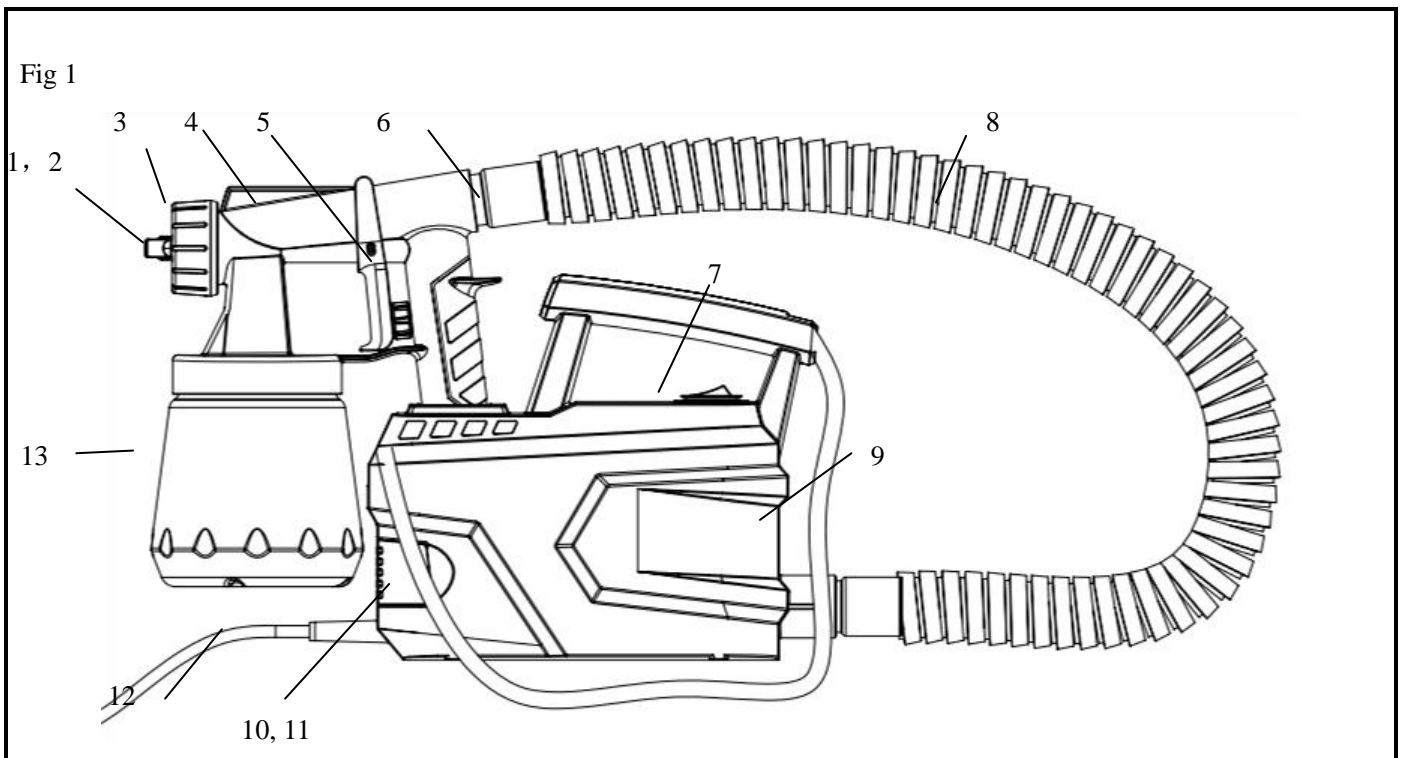

Fig 2
2. Dip the viscosity test cup (Fig. 2) completely into the coating material.
3. Hold the test cup up and measure the time in seconds until the liquid empties out.(Fig. 2)